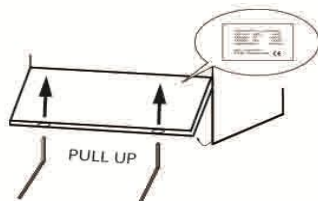

Fig.4
- Extract the front panel with Allen tool or similar by inserting it inside the holes on the inferior part of the panel. Pull up the panel carefully. For Hoodtype models, unscrew the two screws located on the bottom of the panel. (Fig.4)